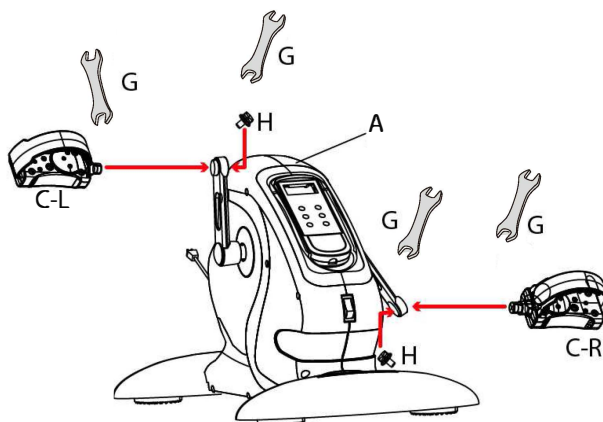

Fig. 4
1. Install the left pedal (C-L) and one screw (H) on the main body (A) as shown in Fig. 4.
2. Screw well using the pedals key (G)
3. Install the right pedal (C-R) and the other screw (H) on the main body (A) according to the same procedures as step 1 and 2 above.